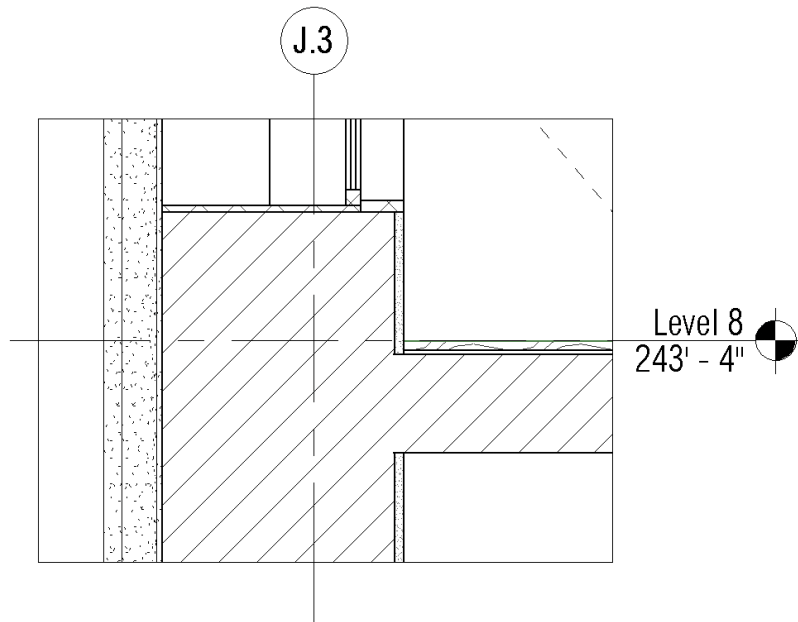

FIGURE 11.9 The finished filled region
8. Highlight the filled region again and use the Nudge tool (the arrow keys on the keyboard) to move the region over slightly to cover the remainder of the finished wall. The finished region looks like Figure 11.9.